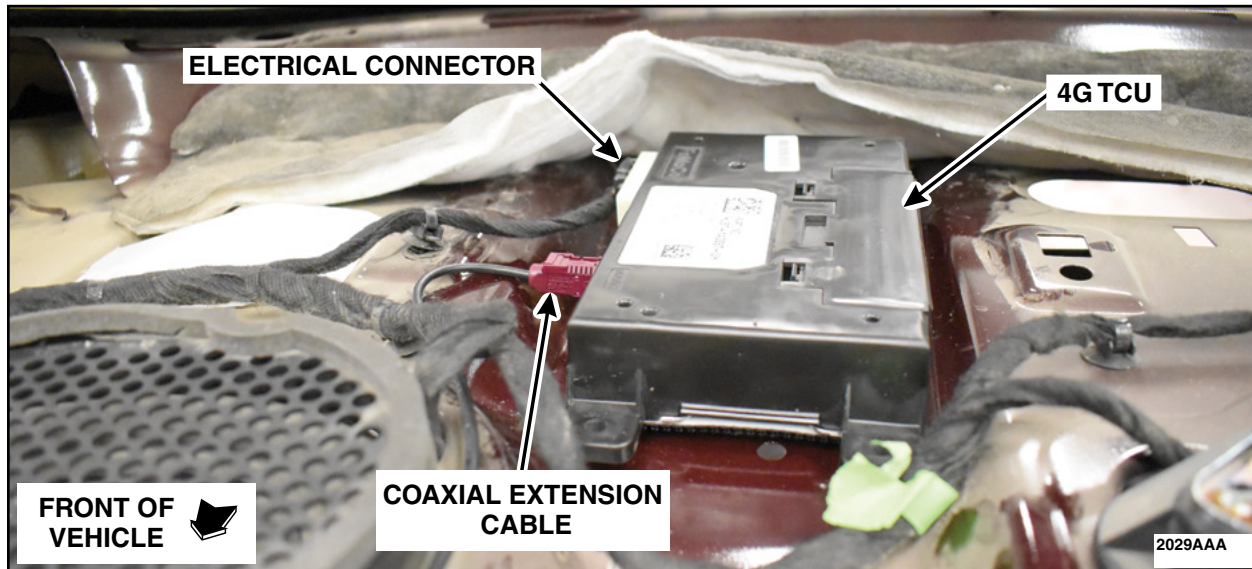

FIGURE 6
7. Install the 4G TCU. See Figure 6.